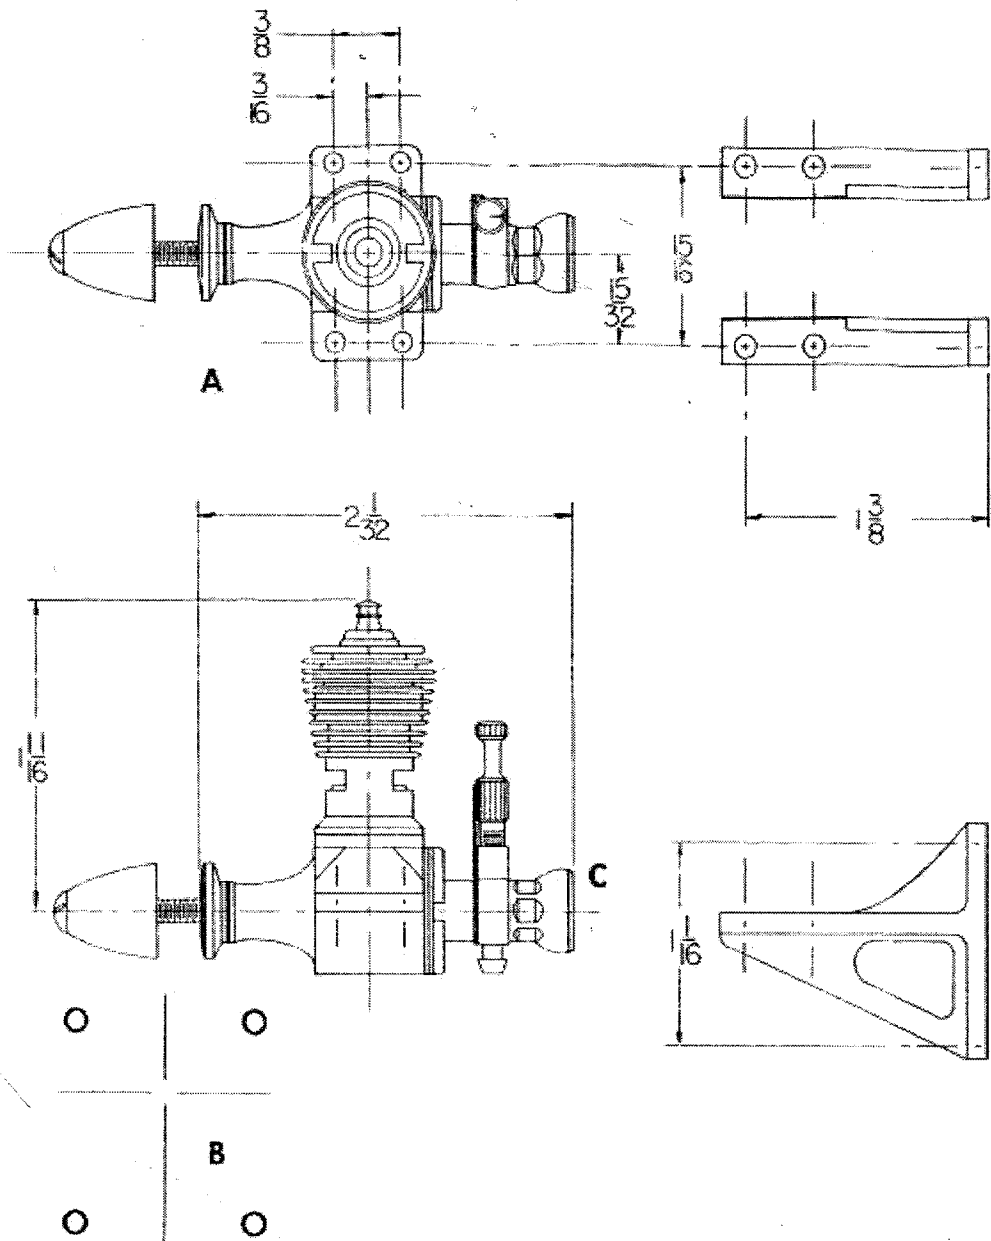

Fig. 1
1. Mount the engine in the plane or, if you want to give it some running first, mount it on a suitable mount. Do not hold the engine directly in a vise. Use as a template, A-Fig. 1, to drill mounting holes for beam mounting. Use template, B-Fig. 1, to drill mounting holes for firewall mounting when using Thimble Drome nylon motor mounts. The screened nut, C-Fig. 1, in the rear is the air intake hole and must be left open.
1. Close the carburetor needle valve, C-Fig. 1, by turning it clockwise till it stops. Do not force it.